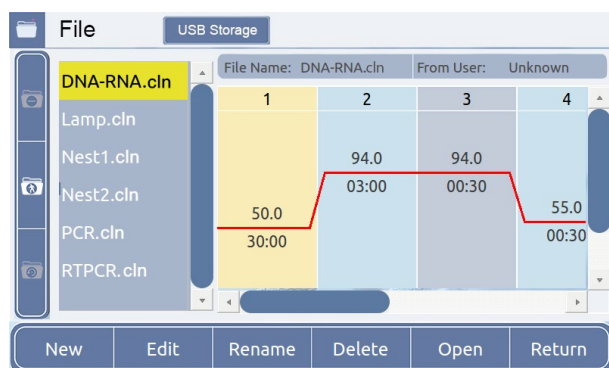

Fig 3. File Library Screen
- * As shown in Figure 3, this screen shows the file list in the left column and a preview of the selected file on the right side.